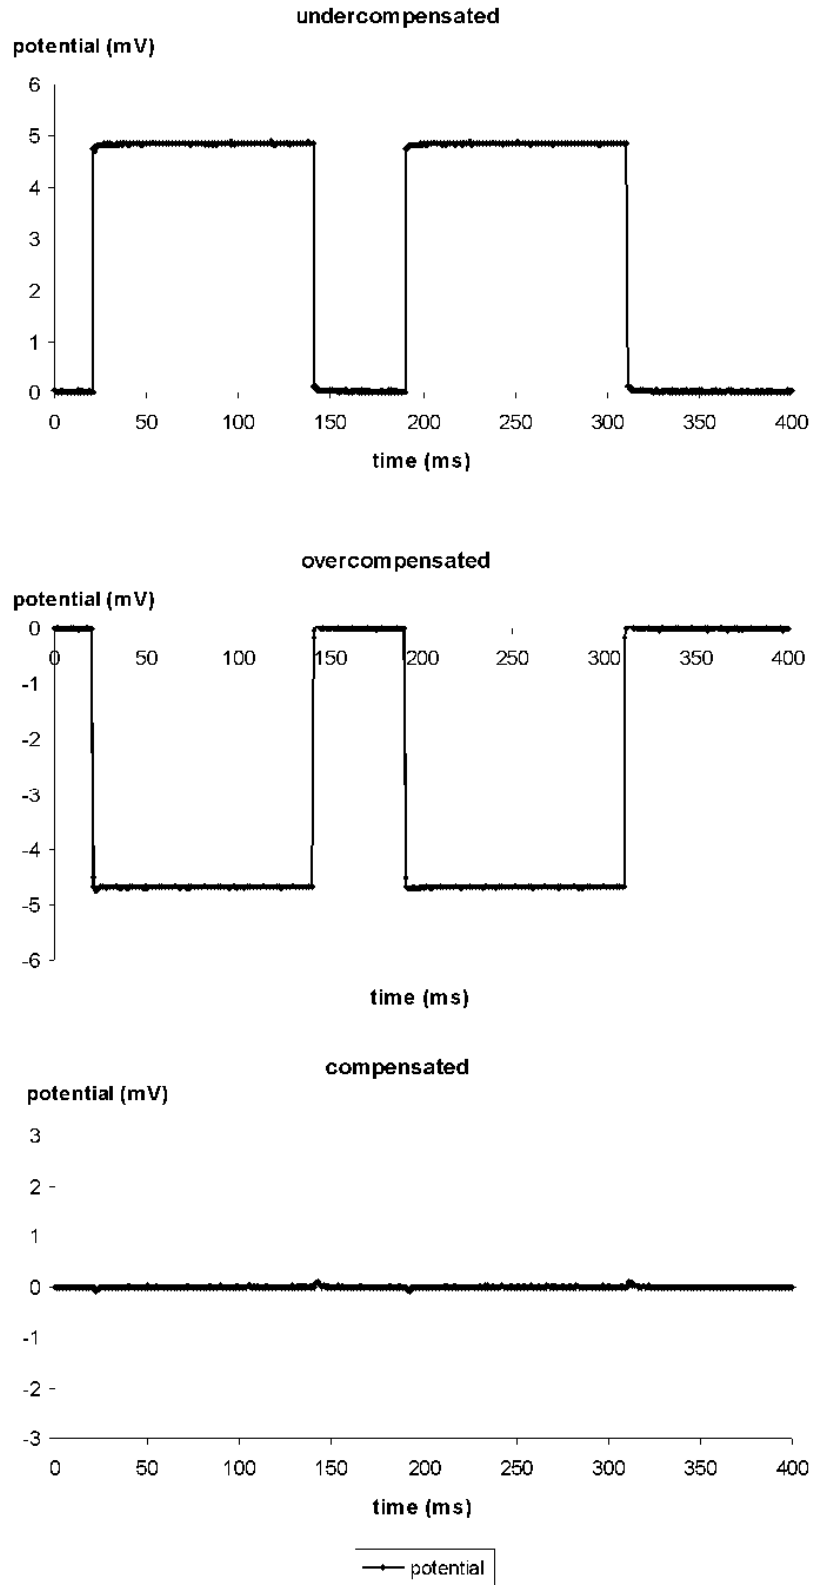

Figure 10: Tuning of the BRIDGE BALANCE using 100 MΩ resistor
With the cell model connected or the electrode in the bath the BRIDGE BALANCE control is turned on clockwise until there is no artifact on the POTENTIAL OUTPUT (see Figure 10).
- o Watch the POTENTIAL OUTPUT (#27, Figure 1) at the oscilloscope and adjust the BRIDGE BALANCE as shown in Figure 10 using the BRIDGE BALANCE potentiometer (#12, Figure 1). After adjustment you should see a straight voltage trace without artifacts caused by the potential drop at R_{EL} .
Figure 10 illustrates the BRIDGE BALANCE procedure using a $100 M\Omega$ resistor that represents the electrode. The current stimuli were generated using the gated stimulus unit gated by two TTL pulses. The amplitude was set to 0.5 nA. In the upper diagram the bridge is slightly undercompensated and in the diagram in the middle it is slightly overcompensated. The lower diagram shows a well balanced bridge (compensated).